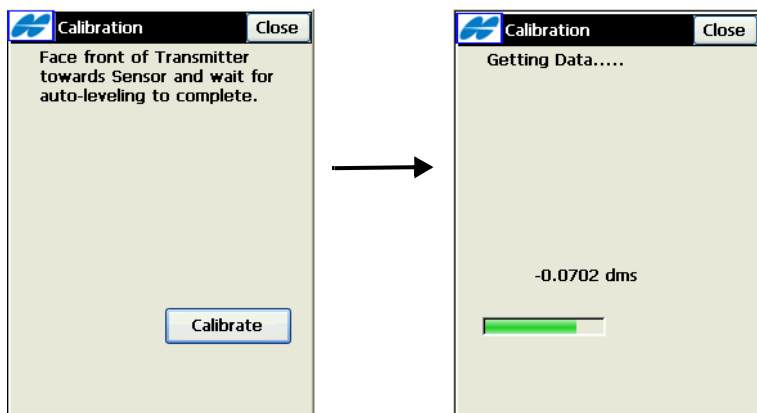

Figure A-16. Begin Field Calibration
7. Tap **Calibrate** after the auto-levelling process completes (Figure A-16).